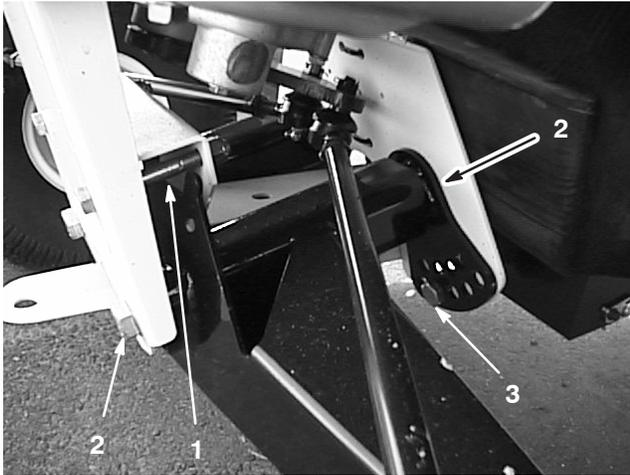

Figure 34
2. Remove the travel limiting bolt (Fig. 34).
3. Loosen the centering bolts in the front A-arm (Fig. 34).
4. Remove the ride height adjustment bolt (Fig. 34).
5. Rotate the front A-arm to the desired position (refer to the note below) and replace the ride height adjustment bolt (Fig. 34).
7. Replace the travel limiting bolt (Fig. 34).